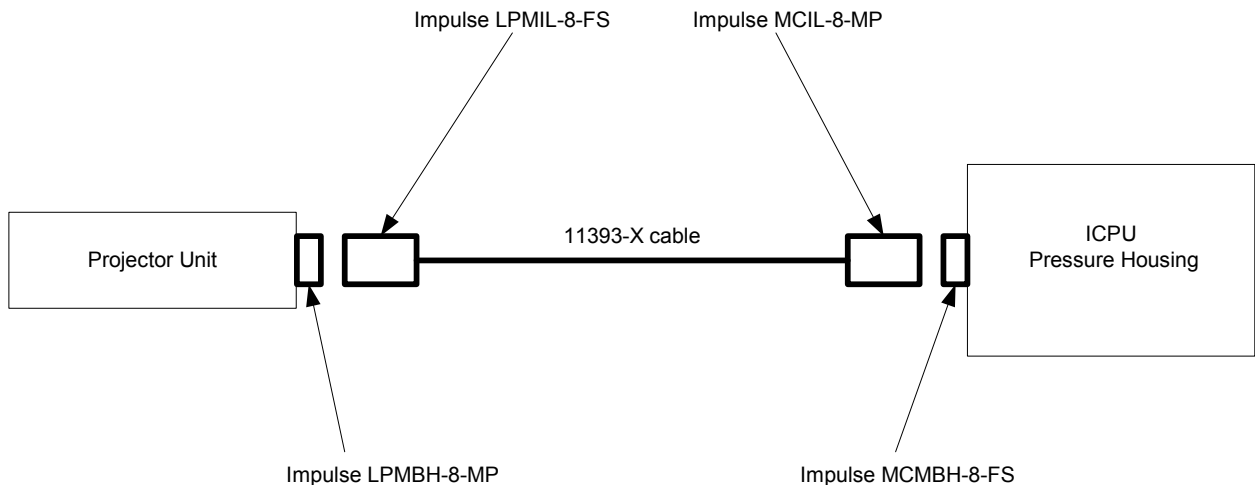

Figure 5 – Projector Unit to ICPU Interface
The Projector Unit(s) interfaces electrically to the ICPU through a single TBD long cable (Reson, Inc. Dwg. No. 11393-X, where X denotes cable length), as shown in Figure 5. A maximum of two (2) Projector Units can be accommodated, with a separate cable and connector required for each. Figures 5 and 6 show the most common ICPU configuration, with a single Projector Unit and a single Receiver Unit.